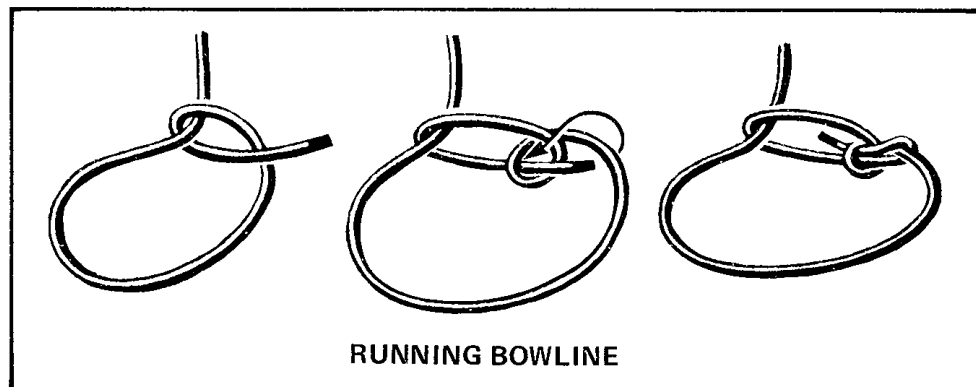

Figure 4-59 Running Bowline
8. **Running Bowline** — (See Figure 4-59.) The running bowline is never used to make a running eye in the end of a rope. It must never be placed around a man's body. It is made very simply by passing a bight around the standing part before tying a bowline in the end of the rope.